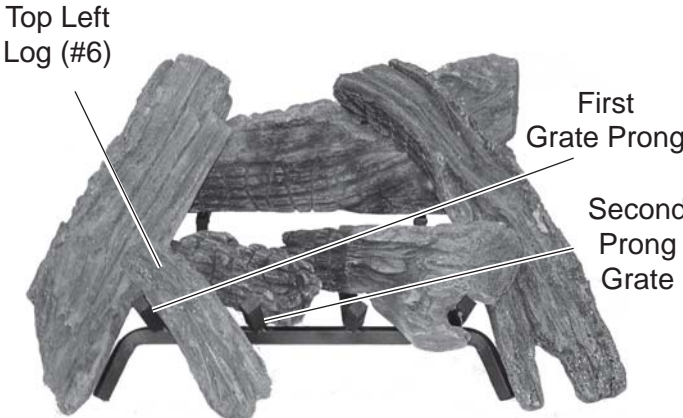

Figure 73 - Resting Top Left Log (#6) on Bottom Left Log and Back Log
- 7. Place end of Top Left Log #6 on bottom left log. Rest the other end between the first and second grate prongs. See Figure 73.